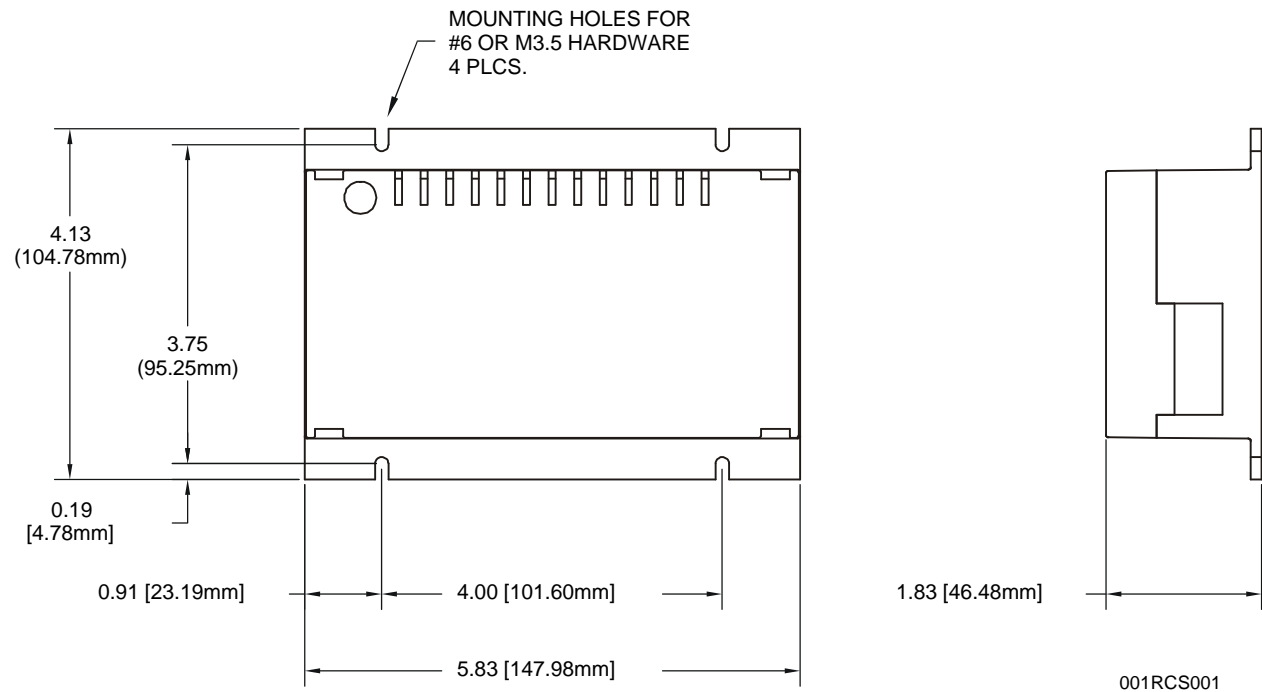

Figure 2.9 – MiniRCS Dimensions / Mounting Holes and MiniRCS Side View
2. Drill holes as described in the Figures 2.9.